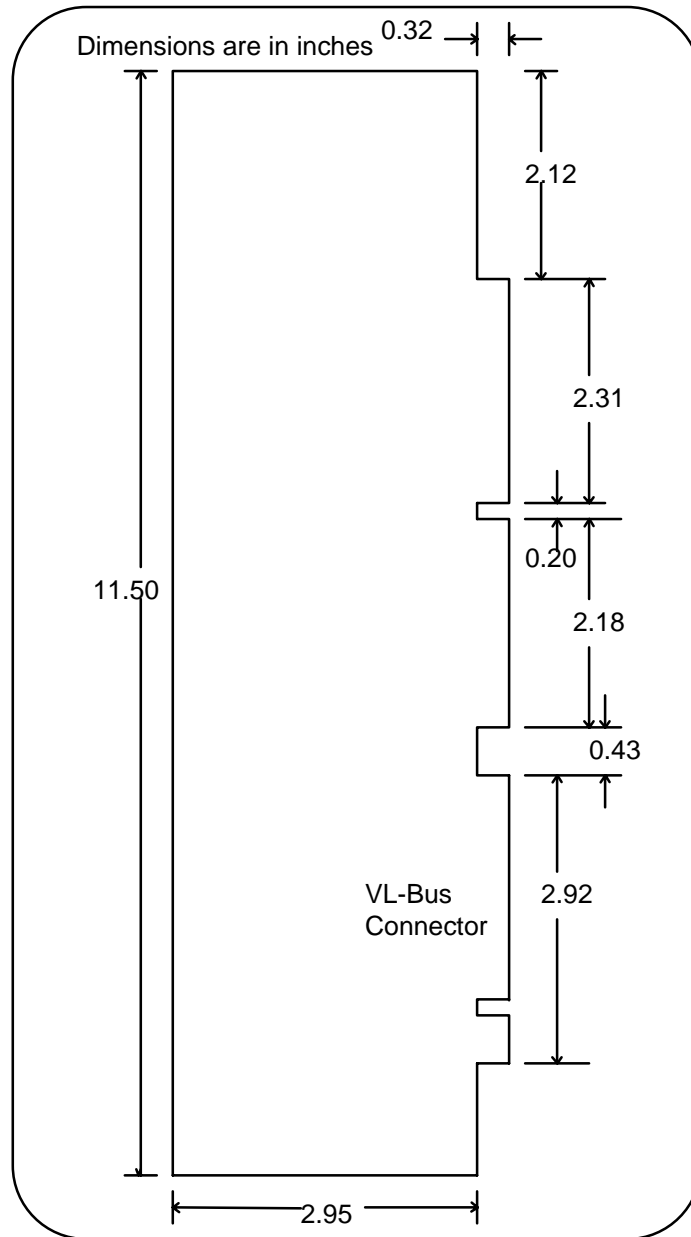

Figure 8.5. VL-Bus/Micro Channel Adapter Card Physical Layout
Figure 8.5 represents a 32-bit or 64-bit Micro Channel type VL-Bus board. The dimensions are based on the Type 3 adapter physical specification. Thickness of the board is 0.063 inch. This mechanical drawing should be used for the relative position of the VL-Bus connector only. For detailed information on the board mechanicals and other aspects of the Micro Channel system, contact the Micro Channel Developers Association (MCDA) at (800) GET-MCDA or (916) 222-2262. The fax number is (916) 222-2528.